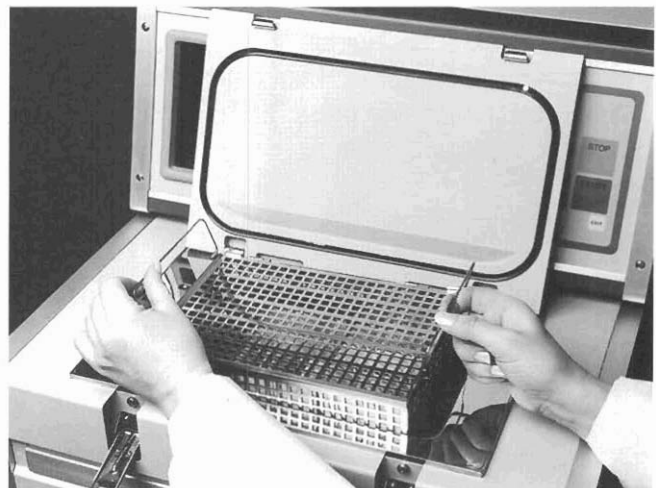

Figure 4-2
- c. Open the retort by sliding the retort bar to the left and unhooking the retort latches. Place the basket(s) into the retort, rotating the handles so they lay flat against the basket lid (Figure 4-2). Close and latch the retort lid, then slide the retort bar to the right. Make sure the message "Retort Lid unlocked" has disappeared from the display.